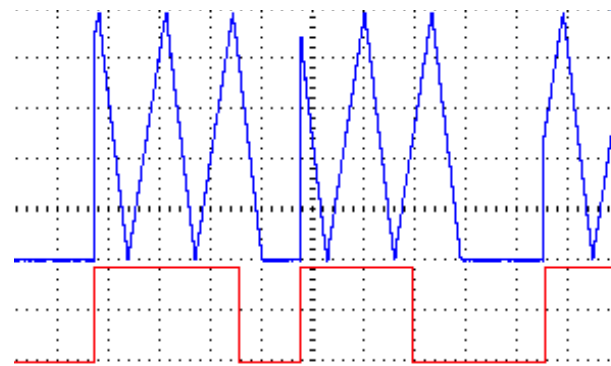

Figure 4: Pressing Cycle button in Sync mode
- Async jack (Asynchronous)** — Apply a trigger/gate to this jack to causes the channel to enter Async mode. An envelope will start immediately. Holding a gate high will cause the envelope to sustain, and then start the fall curve once the gate is released (A-S-R envelope). In Async mode, the envelope does not sync to the ping clock. However, the envelope length is still determined by the ping clock. See *Async vs. Sync section*. See *Figure 4*, also *Figure 2*.